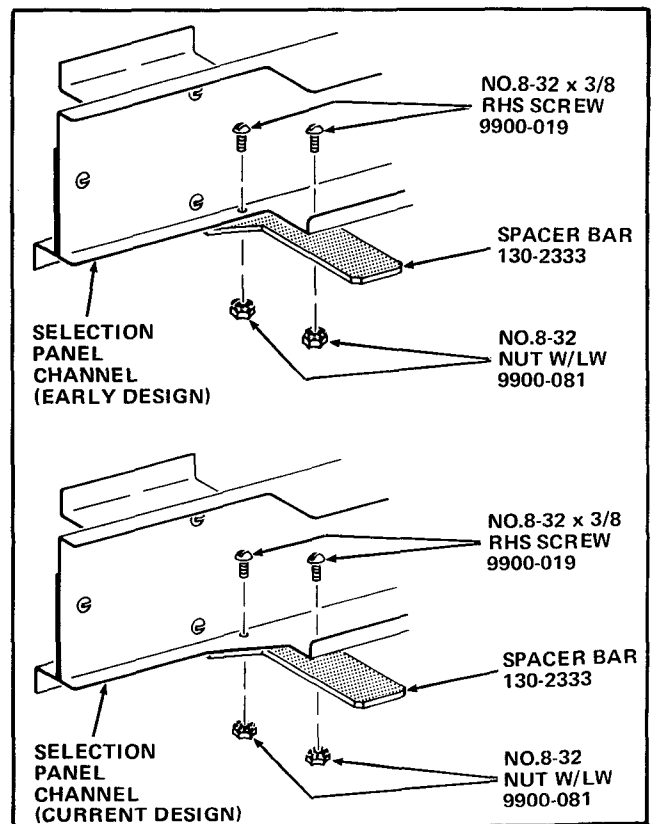

FIGURE 2
23. Install the Spacer Bar on the underside of the Selection Panel Channel Assembly and attach it with the two No.8-32 x 3/8", Round Head Slotted Screws, part number 9900-019 and two No.8-32 Nut/Lockwashers, part number 9900-081. See Figure 2.